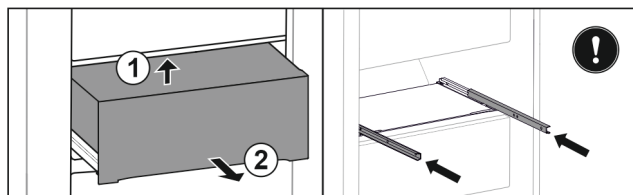

Fig. 112
- ▶ Lift drawer from below at the back. Fig. 112 (1)
- ▶ Remove drawer to the front. Fig. 112 (2)